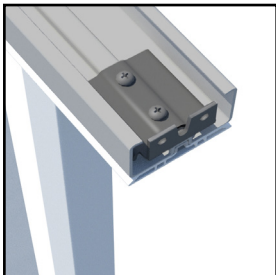

Fig. 10
- Mount the brackets approx 1/16" in to prevent the brackets from scuffing the vinyl posts or other existing posts when sliding the railing in place. (See Fig. 10)